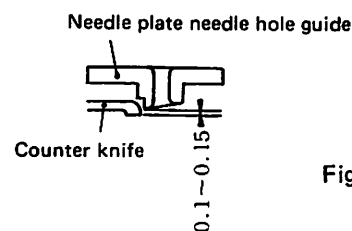

Fig. 20
B. If the thread tension is released too late, the remaining needle thread will become too short and may spring out of the needle. Correct the thread release timing by means of the tension release lever. If the timing is too fast, the thread length will be uneven or too long (See standard adjustment (13)).
D. If the counter knife position is too high, it will cut the thread before the moving knife arrives in the cutting position. If this happens neither the needle and bobbin thread lengths will be enough to start the following stitch. The bottom surface of the counter knife must be positioned 0.1 to 0.15 mm lower than that of the needle plate needle hole guide (Fig. 20).
E. As mentioned in the standard adjustment (10) "Thread Trimmer", when the machine is in the stop-motion position, the thread hooking point of the moving knife must be 1.5 mm (1/16") away from the nearest end of the needle hole in the needle plate. If the distance is greater than 1.5 mm (1/16"), a shorter needle thread will be left in the needle.